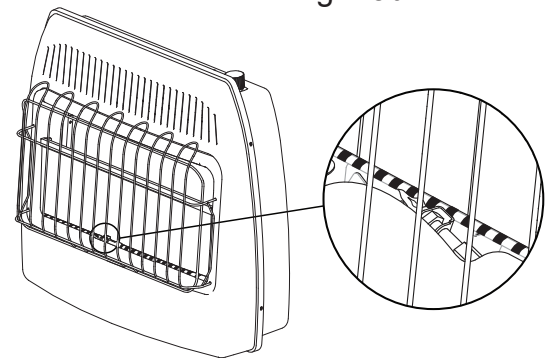

Fig. 24 - Pilot Flame Location
6. With control knob depressed, push down on the ignitor button until the pilot lights. The pilot is visible, centered below the main burner, behind the glass panel. (See Fig. 24 on page 19)
7. Keep control depressed for (30) seconds after pilot lights. Release control knob.
6. With control knob depressed, push down on the ignitor button until the pilot lights. The pilot is visible, centered below the main burner, behind the glass panel. (See Fig. 24)